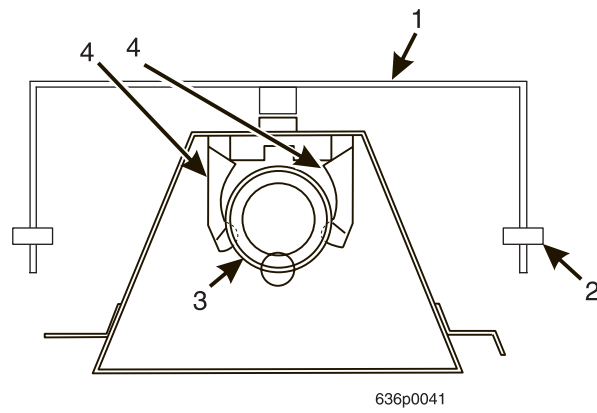

Figure B2
- b. Place the target in the cup station just beyond the cup deflectors (see figure B2, items 4). The target should be standing vertically; not tilted forward or backward.
5. Insert a mug into the cup station in the vending position (see figure B2, item 3) and check to see that the red indicator light is ON.